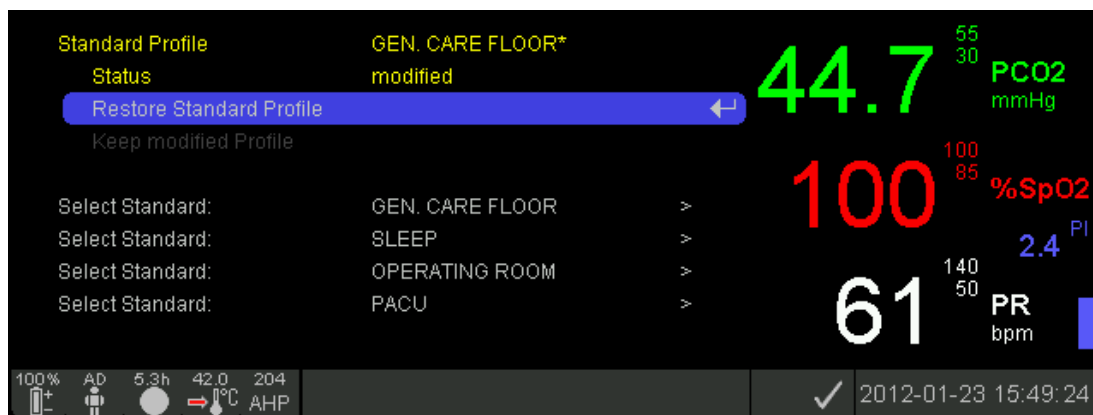

Figure 9 Sub-menu 'Profiles'
- to the sub menu 'Profiles' (Figure 9) if the settings from LAST use and those of the selected 'Standard Profile' are different when the SDM is configured in 'Institutional Mode' (4.7.3).
In the menu of the SDM, the operator can configure all menu parameters (4.7.4.2) during subsequent use on an individual basis at the bed-side. Thereby, operator access to certain menu parameters can be disabled or restricted by the Responsible Organization (4.7.4.1) or, depending on the specific context, by the SDM itself. If the SDM is used in 'Institutional Mode' (4.7.3), the operator can restore the selected 'Standard Profile' or select/activate one of the other profiles stored in the SDM in the sub menu 'Profiles' (Figure 9, Table 50) at any time. This sub-menu is easily accessible via a shortcut in the Quick Access Menu (4.2.5.3, Figure 7) if the sensor is in the Docking Station. Furthermore, if at power-up of the SDM the settings from previous use are different from those of the 'Standard Profile', the sub-menu 'Profiles' is automatically activated, thereby offering the option to restore the 'Standard Profile', to select another 'Profile', or to keep the modified profile.
Note: In 'Basic Mode' no 'SDM Profiles' can be stored on the SDM. In 'Basic Mode' the sub-menu 'Profiles' (Figure 9, Table 50), consequently, is not accessible and no profile name will display on the 'Ready for use/Calibration' screens (4.2.4) and in the main menu (Table 36).
In the sub-menu 'Profiles' (Figure 9, Table 50) – which is easily accessible via a short-cut in the Quick Access Menu if the sensor is in the 'Docking Station' (4.2.5.3, Figure 7) – the operator can at any time restore the 'Standard Profile' or select/activate therein one of the other 'SDM Profiles' stored on the SDM as 'Standard Profile'.
Note: On the SDM, the name of the selected 'Standard Profile' is displayed on the 'Ready for use/Calibration' screen (4.2.4), in the main menu (Table 36), and in the sub-menu 'Profiles' (Figure 9, Table 50). An asterisk appears behind the profile name if at least one of the SDM's
current settings differs from its setting in the selected 'Standard Profile' (an example is shown in Figure 9).